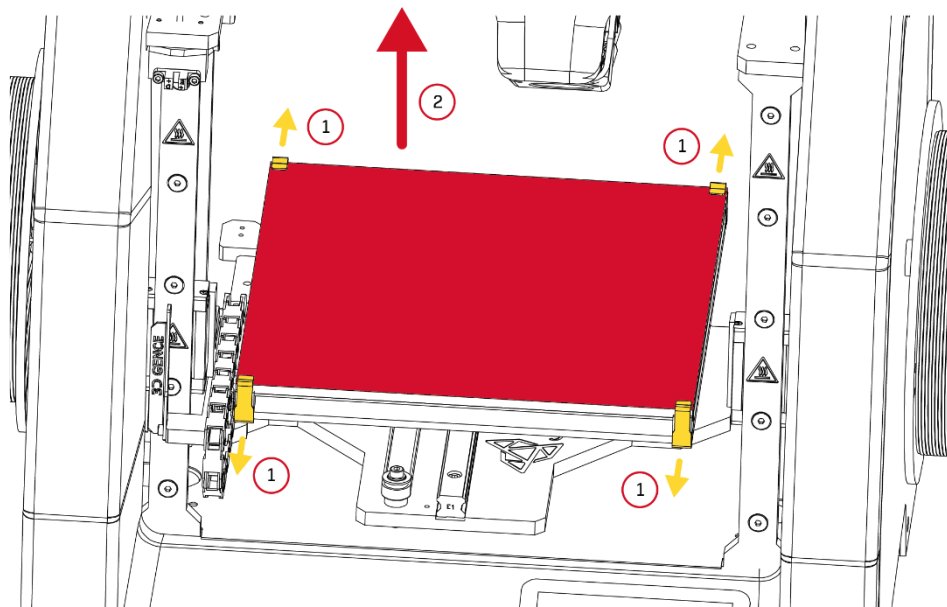

Fig. 57 Heatbed: 1. Clips | 2. Ceramic heatbed surface
4. Remove four metal clips fastening the ceramic surface by sliding them off (fig. 57, yellow colour, point 1). If it is difficult to remove the clips, use pliers.
5. Gently raise the ceramic surface upright (fig. 57, red colour, point 2).